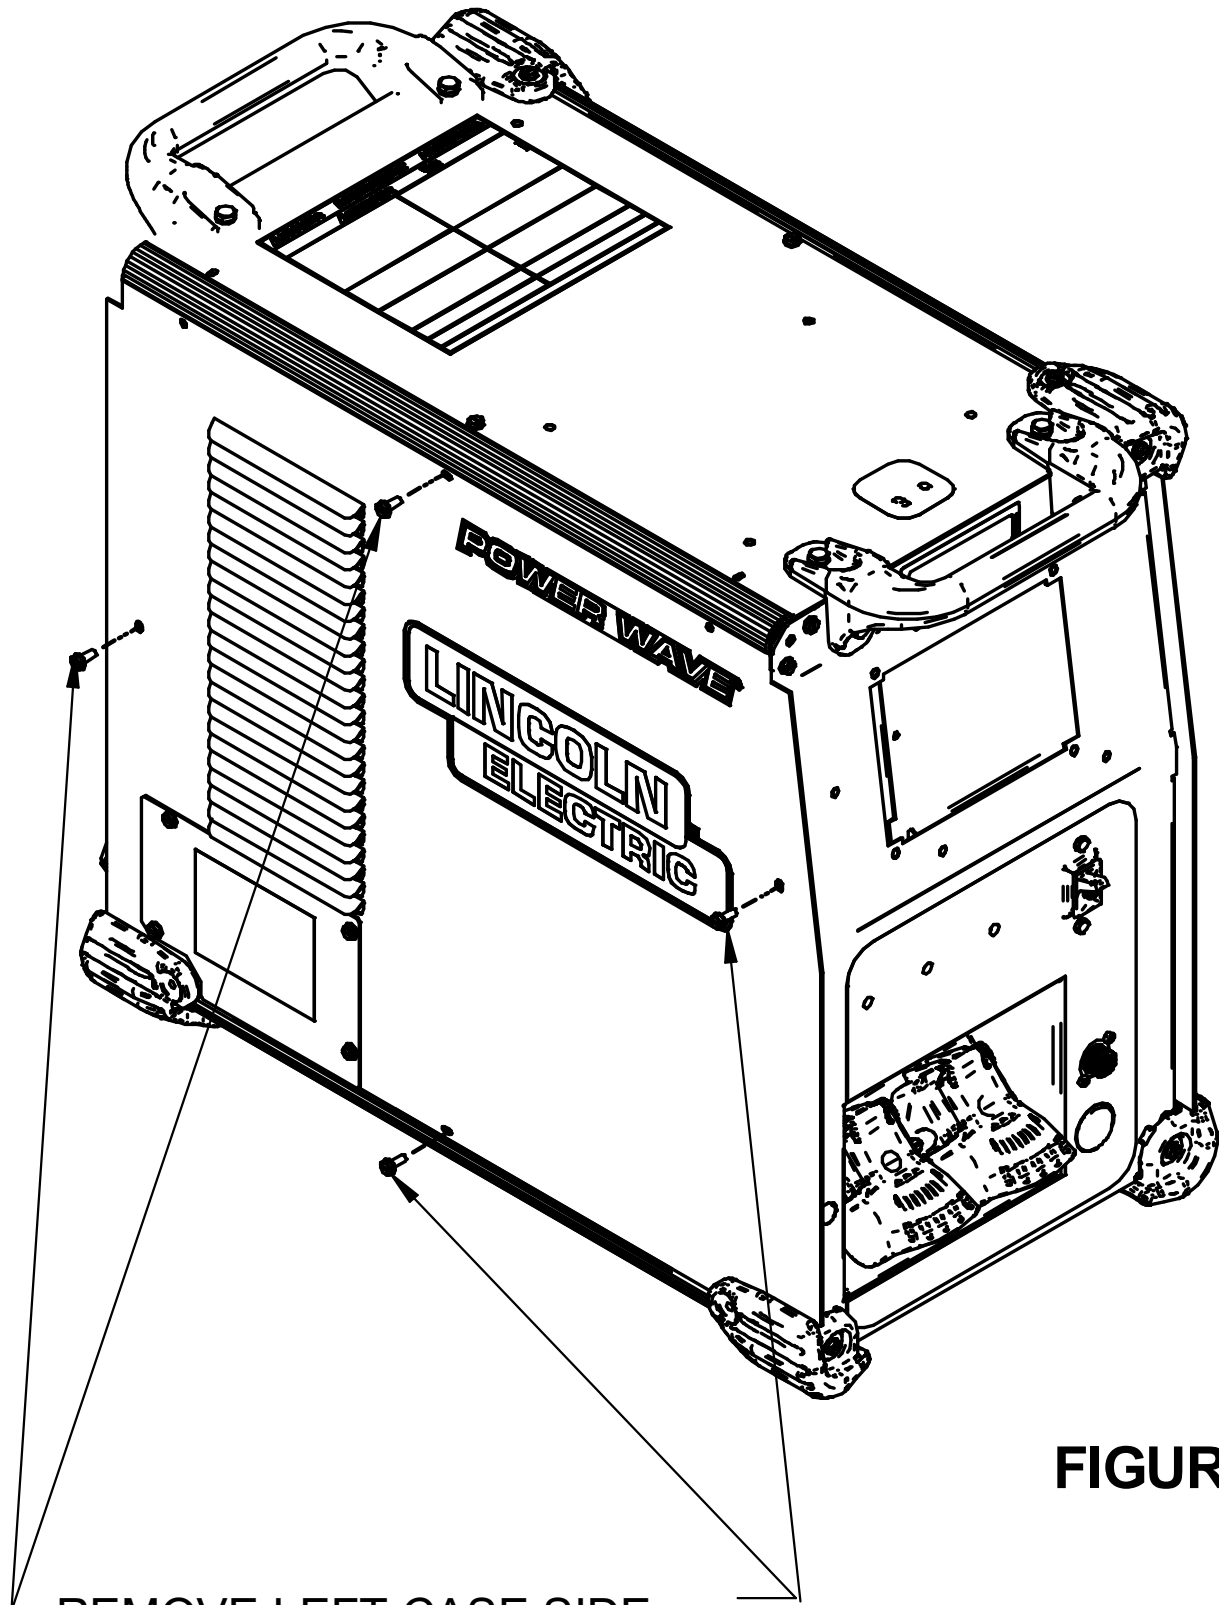

FIGURE 3
6. Remove the left case side by removing the four screws mounting them, using a 5/16" nut driver or other suitable tool (**Figure 3**). Retain all mounting hardware for case side.